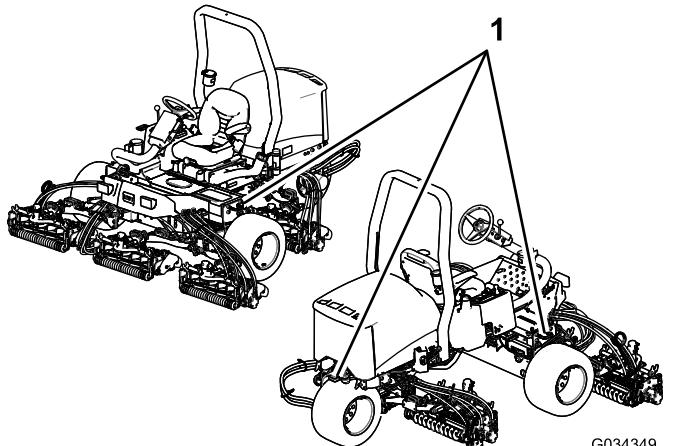

Figure 43
- Tie the machine down securely using straps, chains, cable, or ropes. Both front and rear straps should be directed down and outward from the machine; refer to Figure 43.